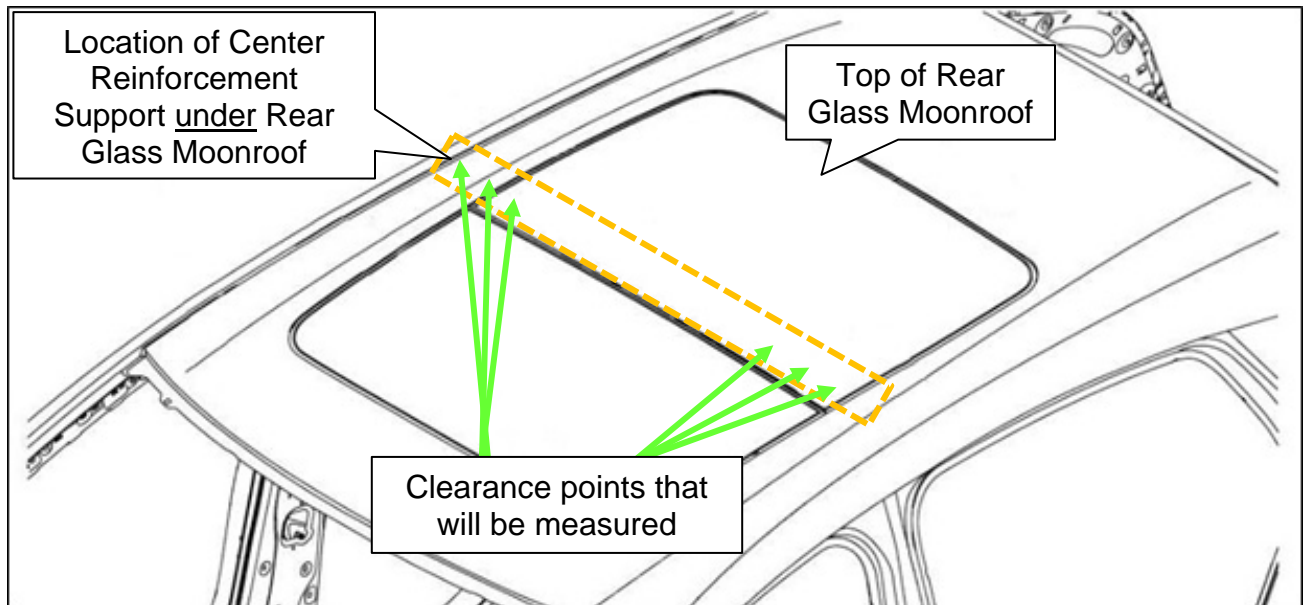
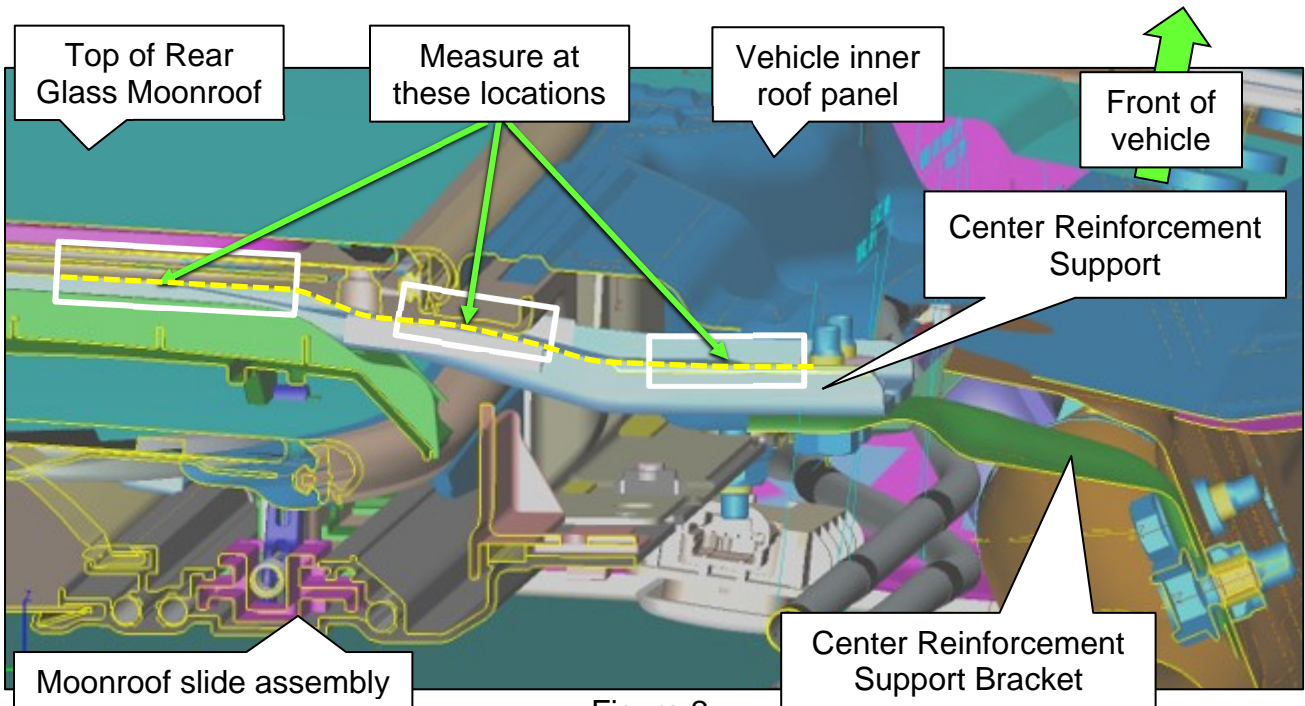
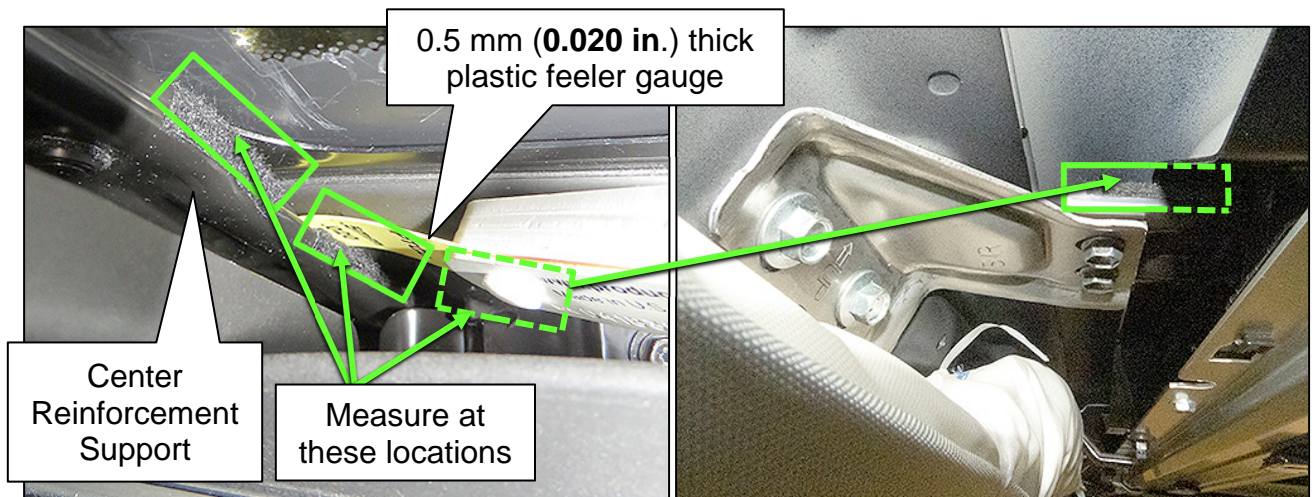

Figure 1
Figure 2
Figure 3
2. Using a 0.5 mm (0.020 in.) thick plastic feeler gauge, measure the clearances at the six (6) points shown in Figure 1. Refer to the following bullet points and Figure 2, Figure 3 and Figure 4 on page 3 for more detail.
- Measure the gaps from the top of the Center Reinforcement Support (Yellow dashes in Figure 2), to the underside of the roof and the Rear Glass Moonroof, where felt tape is present. See Figure 3 and Figure 4 for pictures of the felt tape.
HINT: Figure 3 shows only three (3) points on one side. The other side is similar.